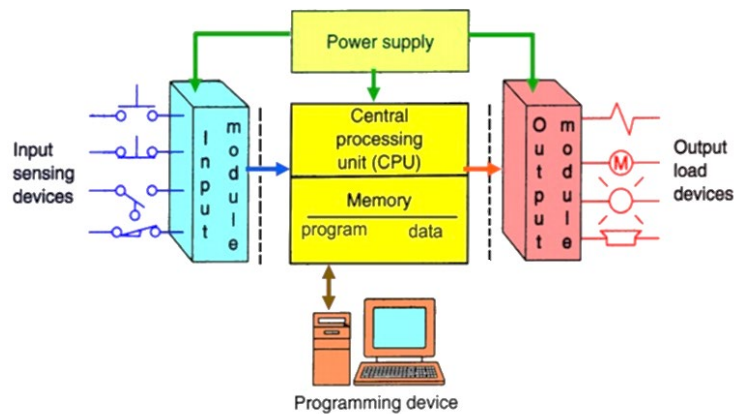

Figure A3(a)/Rajah A3(a)
- CLO1 a) Figure A3(a) shows the PLC block diagram. Briefly explain the function of the Power Supply, CPU, Memory, Input Module, and Output Module.